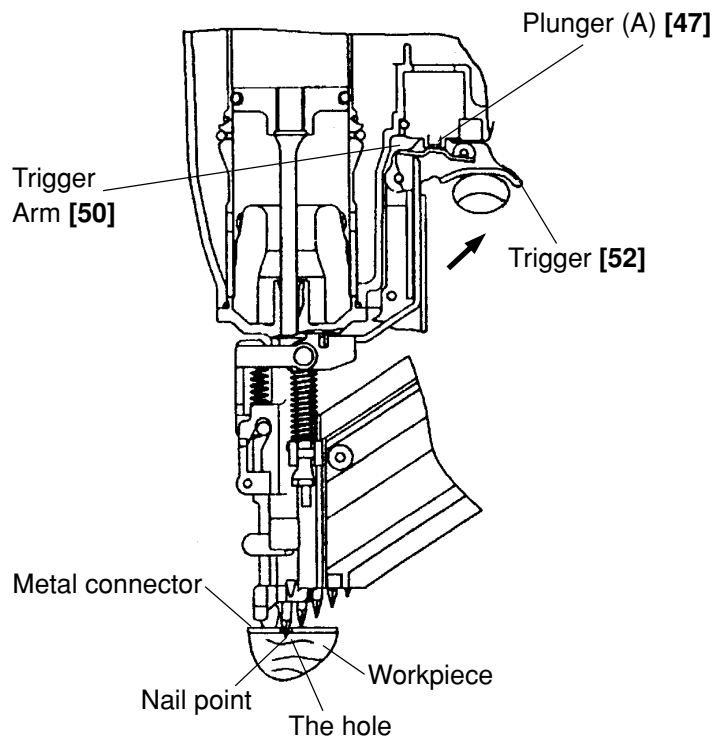

Fig. 8
- (b) After inserting the nail point into the hole in the metal connector, pull the Trigger [52] to make the tip of Pushing Lever (A) [30] contact with the surface of the metal connector. Then the Trigger Arm [50] pushes up Plunger (A) [47] and the nailer is started to drive nails (Fig. 8).